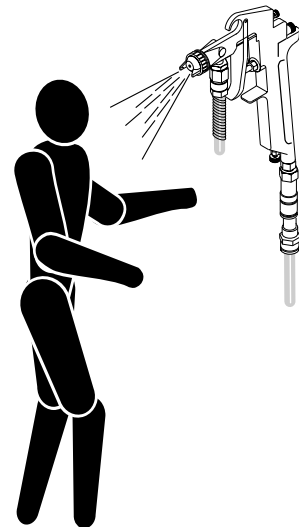

Fig.39
7) The spray gun **MUST NEVER** be aimed at people (fig. 39) or objects that are not involved in the operations. Any kind of operation should be carried out with the gun facing downwards.